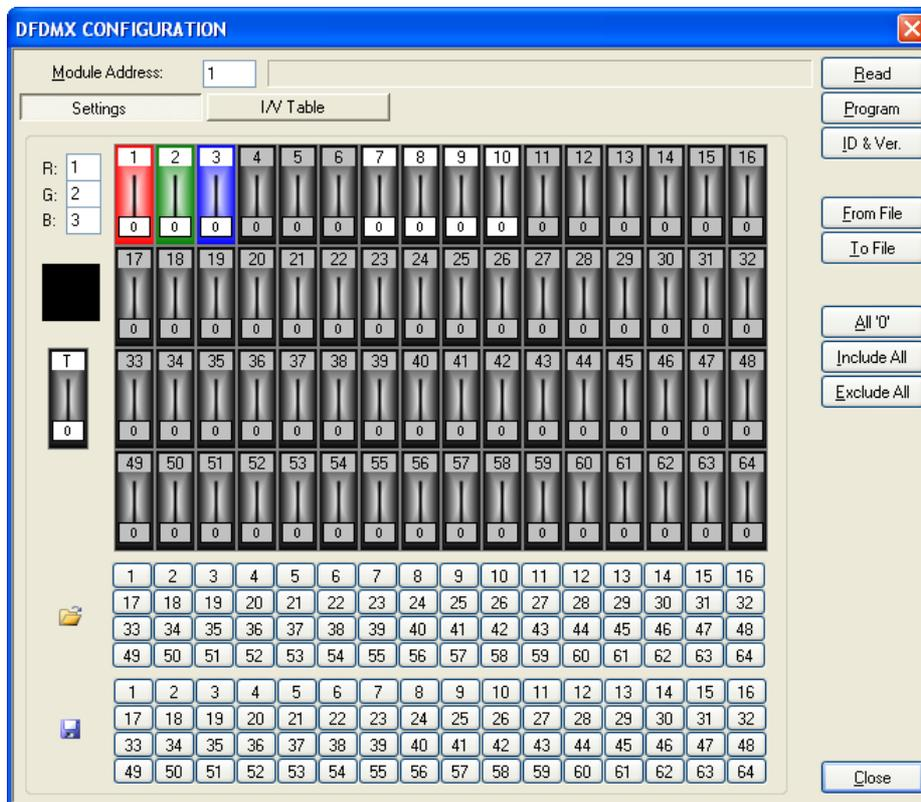

Figure 1: Settings
As said before, DFDMX module can store and recall up to 64 sceneries. This paragraph describes the management of these sceneries by the program BDTools or DCP Ide in simple and fast way. The sceneries management is performed by a PC connected to the **Domino** bus through DFRS, DFTS or DFCP. To access the configuration panel, from the menu of BDTools (or DCP Ide) select Programming, then Modules Configuration and then DFDMX. The window shown in Figure 1 will appear.
The "Settings" TAB in Figure 1 shows 64 sliders allowing to change the value of the related DMX channel; in addition, a slider named "T" allows to set the ramp time. The address of the DFDMX module to be managed must be entered in the text box in the upper left side (1). The bar in the upper side of the window also features some buttons with the following meaning: